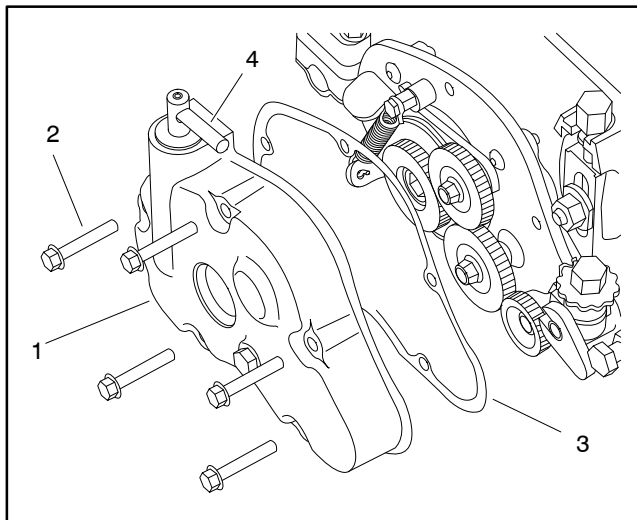
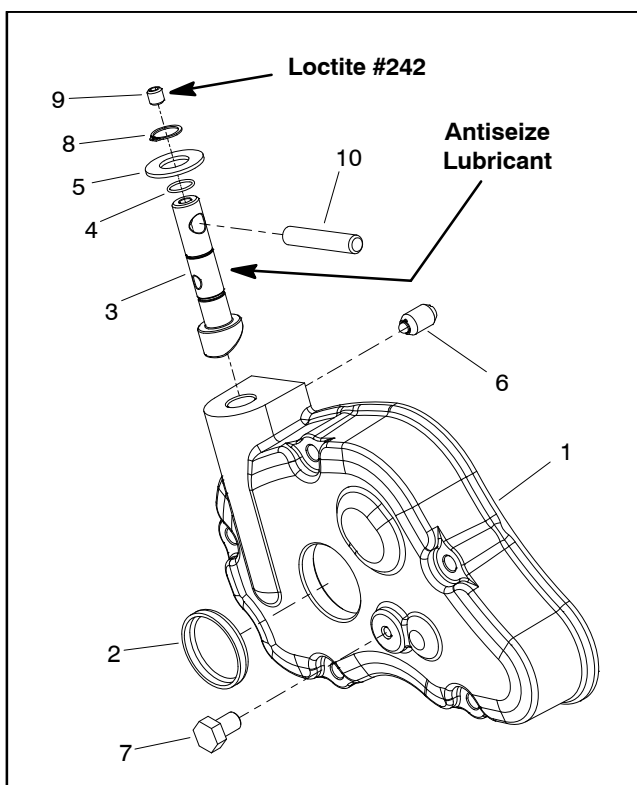

Figure 4
Figure 5
4. Remove groomer cover assembly from machine (Fig. 4):
A. Remove five (5) flange head screws that secure groomer cover assembly to RH drive plate.
5. If necessary, remove shaft from groomer cover (Fig. 5):
A. Loosen set screw (item 9) on top of shaft and slide handle from shaft.
B. Remove retaining ring (item 8) and thrust washer (item 5) from shaft.
C. Remove plunger detent (item 6) from groomer cover.
D. Slide shaft out of groomer cover. Remove and discard O-ring (item 4) from shaft.
### 1. If removed, install shaft into groomer cover (Fig. 5):
### 2. Install groomer cover assembly to RH drive plate assembly (Fig. 4):